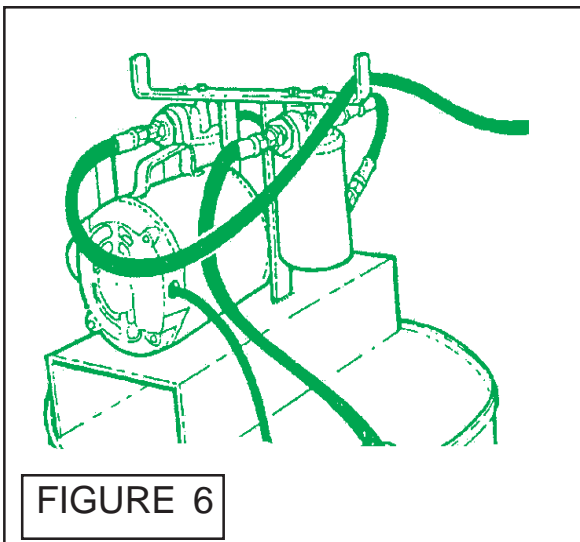

FIGURE 6
2. To change filter cartridge it is not required to unbolt filter assembly from tank. It will require the removal of the filter housing cover (figure 6) by unbolting the filter cover bolts (figure 6). There is a spring under the cover that presses down against the filter cartridge, hold down on the filter cover as you unbolt it. Lift the cover off and the spring under it. Hold a small drain pan as close to the filter housing as possible, this will allow you to pull the filter cartridge straight up out of housing and move it over the drain pan as quickly as possible. This will limit the amount oil leaking down on tank and deck.